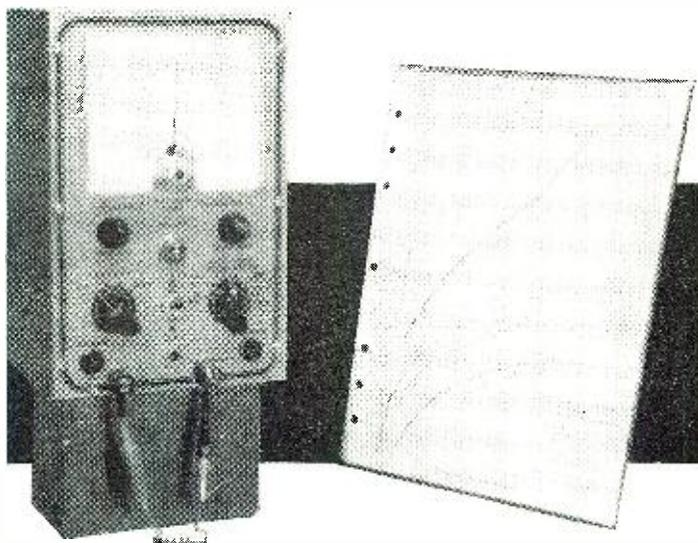

Fig. 1. A v.t.v.m. modified to measure capacitors, as explained in the text, with its calibration chart for translating voltage readings to capacities.
The modification shown in Fig. 2 applies to a Heathkit v.t.v.m. Model V-4A. A similar method of obtaining an a.c. voltage on the front panel could apply for other makes of v.t.v.m.'s. A 56,000-ohm, half-watt resistor protects the power supply of the v.t.v.m. against inadvertent shorts. The binding posts were installed using mica insulation in order to prevent stray leakage currents from upsetting the readings. After installation of these components, the instrument is replaced in its case, and all test leads removed. Fig. 1 shows the panel arrangement.
2. Short leads, 3 inches or less, soldered to insulated alligator clips should be attached to the binding posts as shown in Fig. 1.